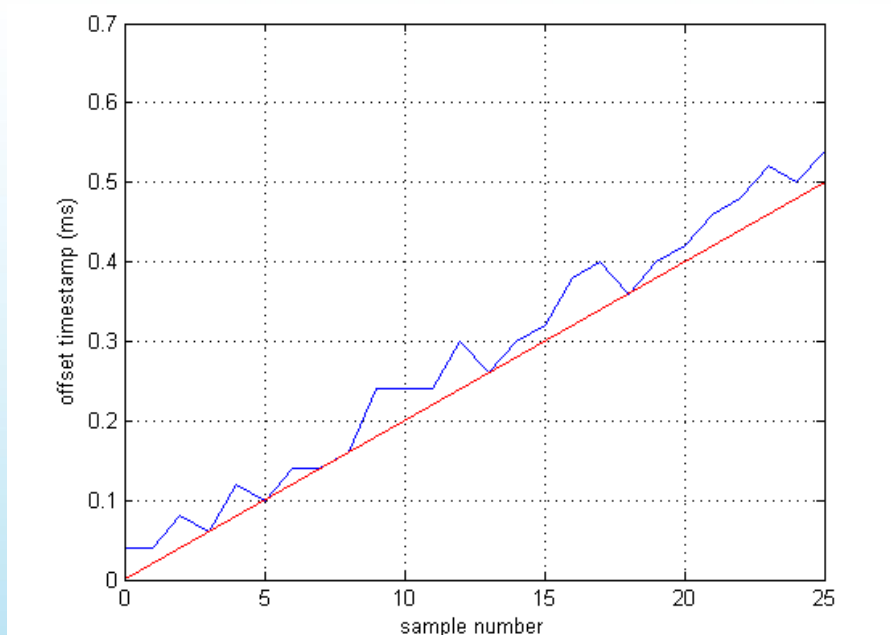

Figure 8-2: Step 5a
i. A minimum mean square error fit or similar will provide reasonable results. However, the ideal fit would produce a lower bound on the estimated offset values, as illustrated in Figure 8-2.